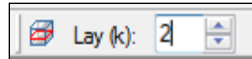

Figure 5 Switching to layer 2
1. In the *Mini-Grid Toolbar*, click on the up arrow to change the view to *Lay (k)* (layer) “2” (Figure 5).